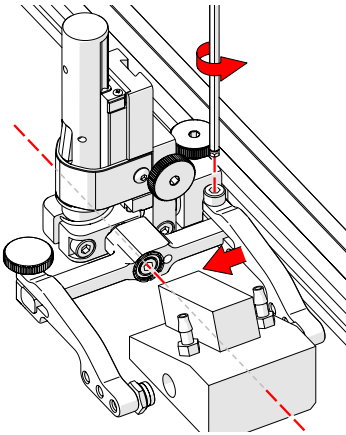

Fig. 145 - Adjust inner arm
4. Position the wedge on the inner probe holder arm (Fig. 145).
**TIP:** The probe holder yoke can accommodate many different probe and wedge sizes of varying widths. It is best to centre the wedge with the yoke's pivot axis. This can reduce wedge 'rocking' when scanning. Position the inner probe holder arm accordingly (Fig. 145) using the supplied 3 mm hex driver (Fig. 50).